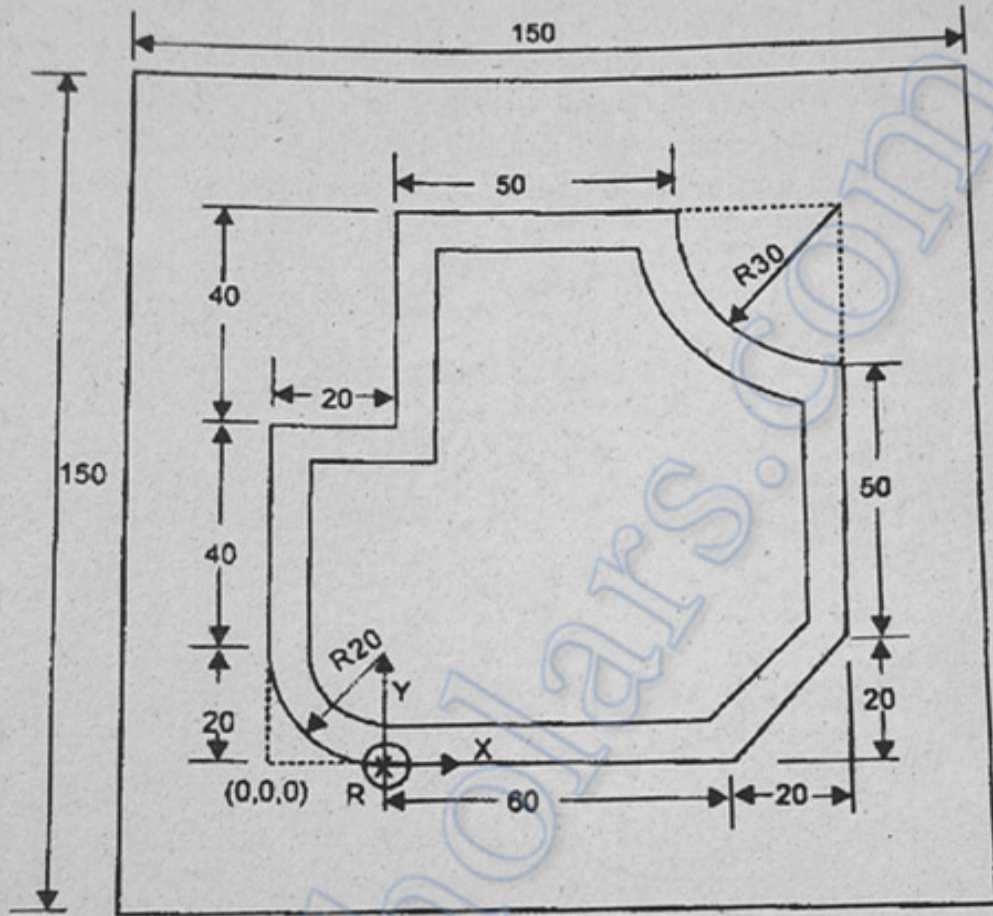

Figure Q.15(b) (ii)
- (ii) Write a part program for the part shown in Figure Q.15(b) (ii). (8 + 8)